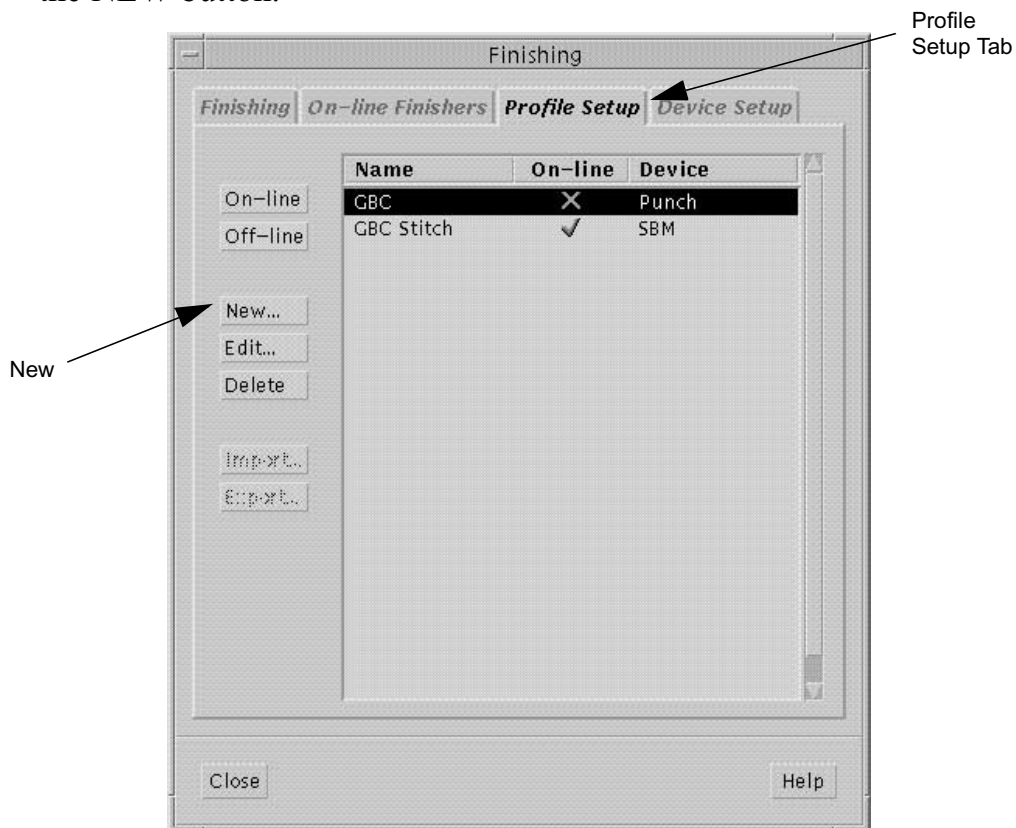

Figure 1-10: The Profile Setup Tab Screen
- 8 Click on the Profile Setup tab, as shown in Figure 1-10, then click on the NEW button.